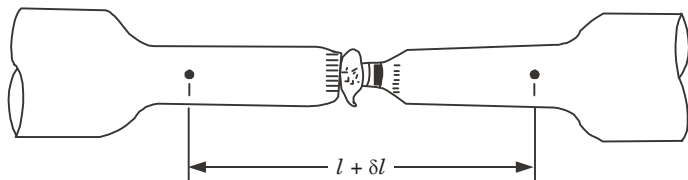

Fig. 1.20.2. Increased length and reduced diameter after fracture.
10. After fracture the two pieces of the broken specimen are placed (Fig. 1.20.2) as if fixed together and the distance between the two gauge marks is measured as the final length of the specimen.